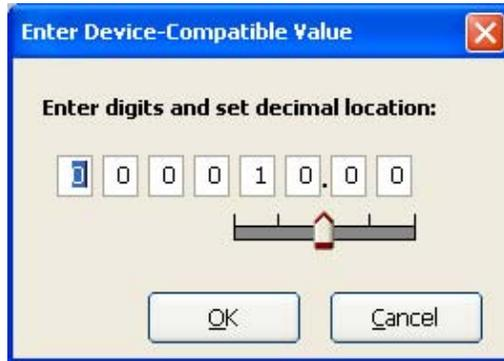

Figure 4.33—Data-entry screen for pulse output scale factor
3. Click on the pencil icon next to the scale field to open a data-entry window (Figure 4.33, page 68), and enter the scale factor. Adjust the decimal position, if necessary, using the slide bar. The scale factor sets the volume increment that will cause a pulse output to occur. The unit for this factor is determined by the unit set for the volume display.